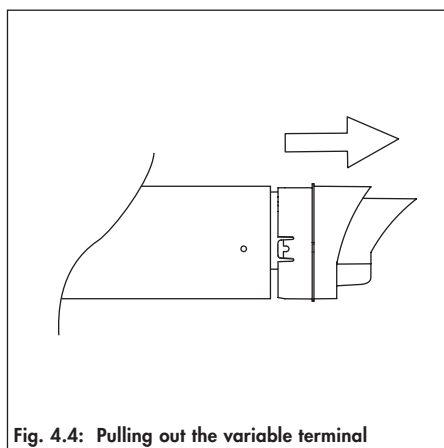

Fig. 4.4: Pulling out the variable terminal
- Pull the terminal with the flue duct out of the air duct (fig. 4.4).